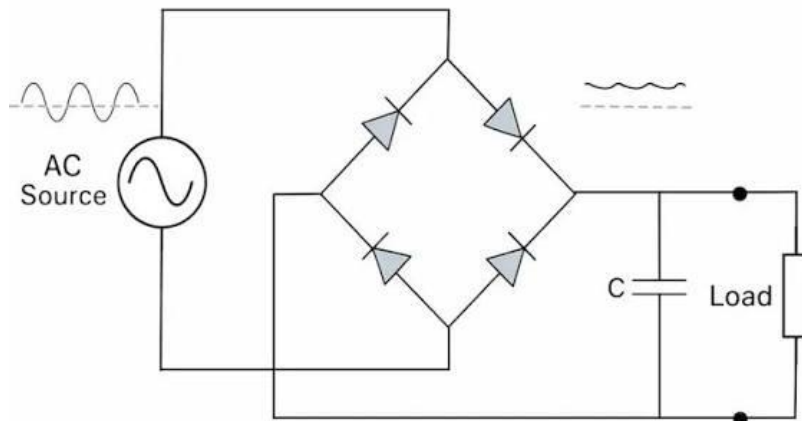

Figure 3.3
2. Connect the $10\mu\text{F}$ capacitor in parallel with R (respecting polarity) (Figure 3.3).